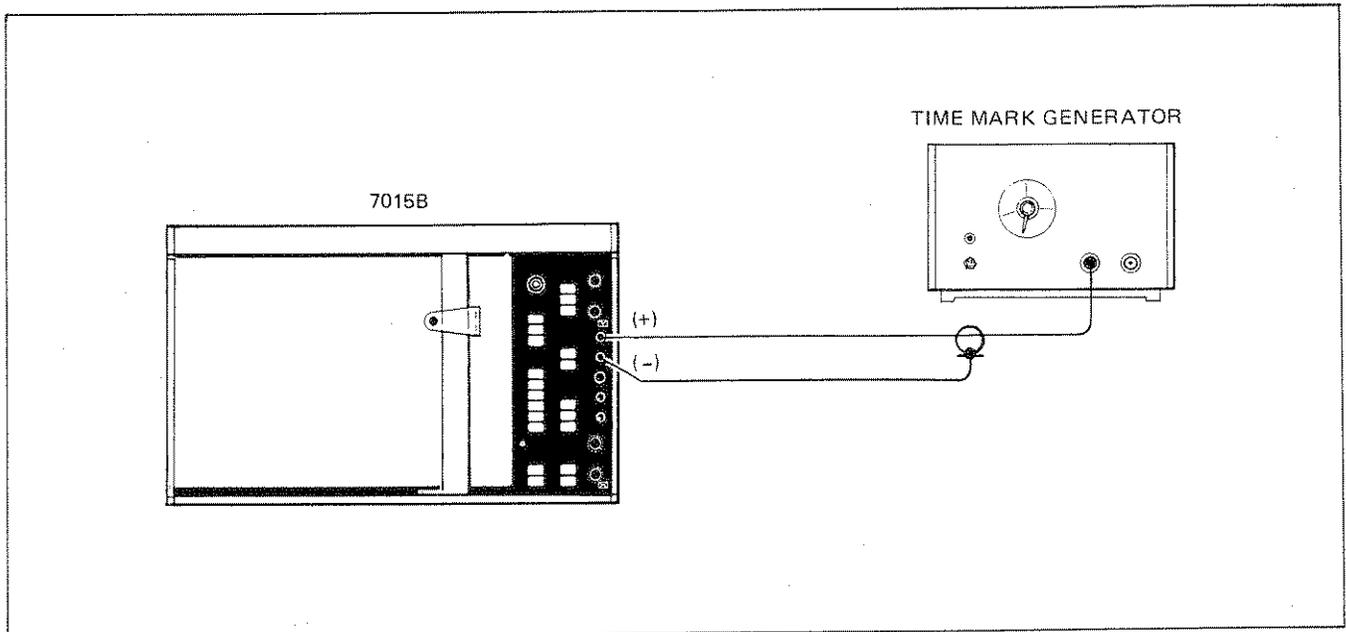

Figure 5-3. Timebase Calibration Connection
- c. Connect HP Model 226A Time Mark Generator to Y-axis inputs. (See Figure 5-3.)